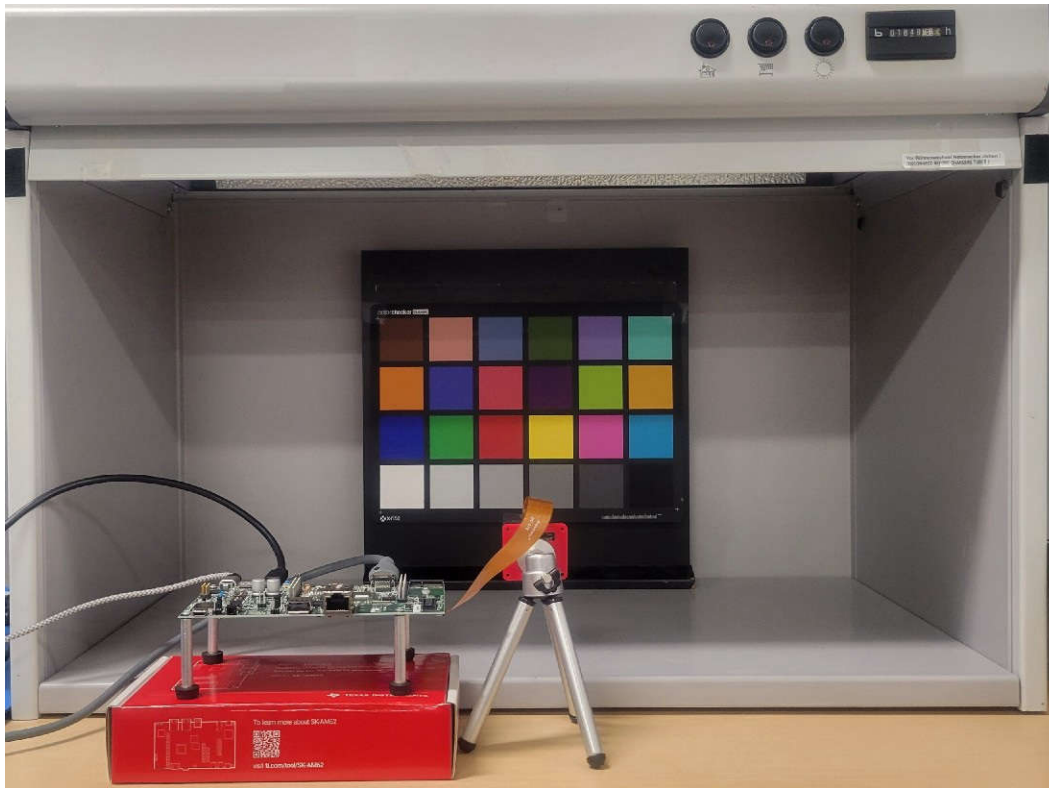

Figure 3-1. Tuning Hardware and Equipment Setup
- Tripods or mounts as needed to hold the camera securely at a desired position. Figure 3-1 shows an example of such setup.